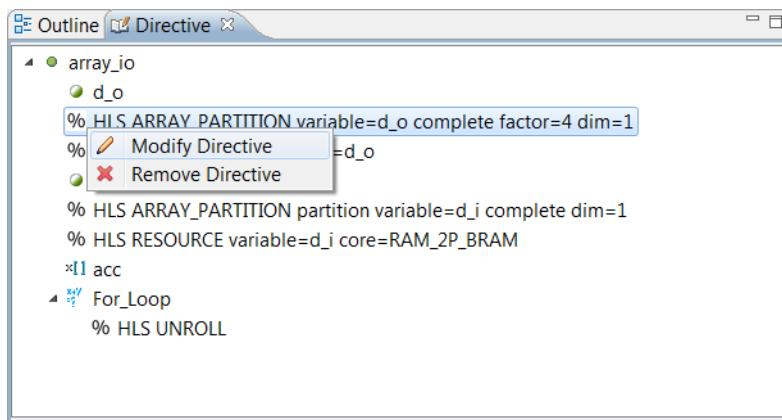

Figure 4-25: Modifying the Directive for d_o
4. In the Directive tab, select the existing partition directive for d_o as shown in Figure 4-25.